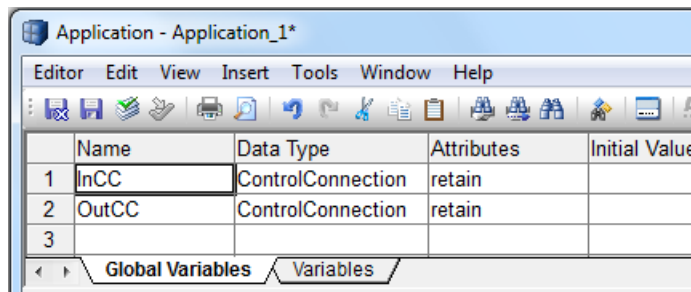

Figure 41. Global variables for connecting the CCTemplate object in the application
2. Declare the variables (InCC and OutCC of ControlConnection) using the graphical connections in the Application according to Figure 41.